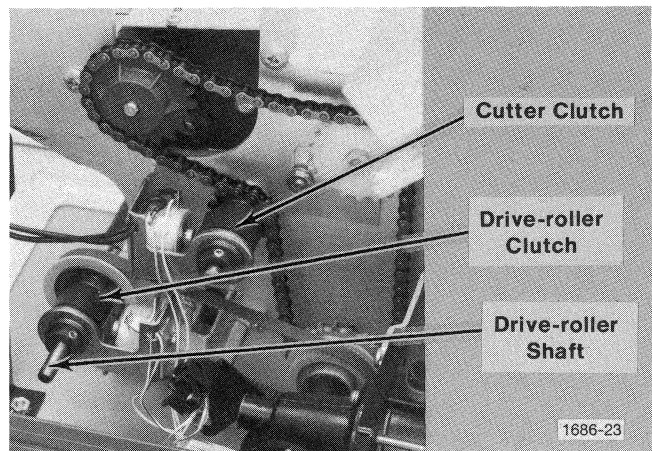

Fig. 3-12. Clutches with interrupter bracket and interrupter wheel removed.
8. Using an offset Phillips screwdriver, loosen the screw holding the optical interrupter bracket (Fig. 3-12) and swing the bracket toward the rear of the instrument, away from the wheel. Grasp the outer edge of the interrupter wheel firmly and pull straight out to remove it from the shaft, being careful not to damage the interrupter disc on the center of the wheel.
9. Loosen the allen screw, which holds the drive roller clutch assembly to the shaft (Fig. 3-12).